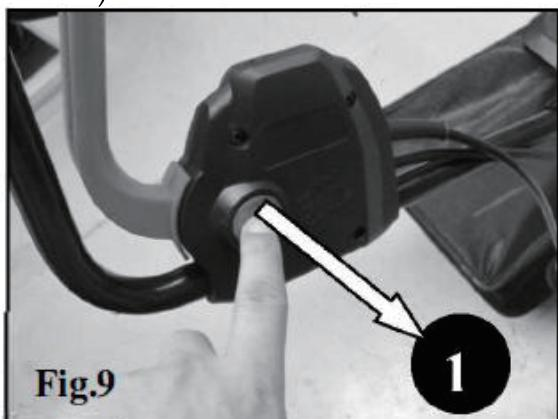

Fig.9
- Press and hold the start button (1). (See fig.9)